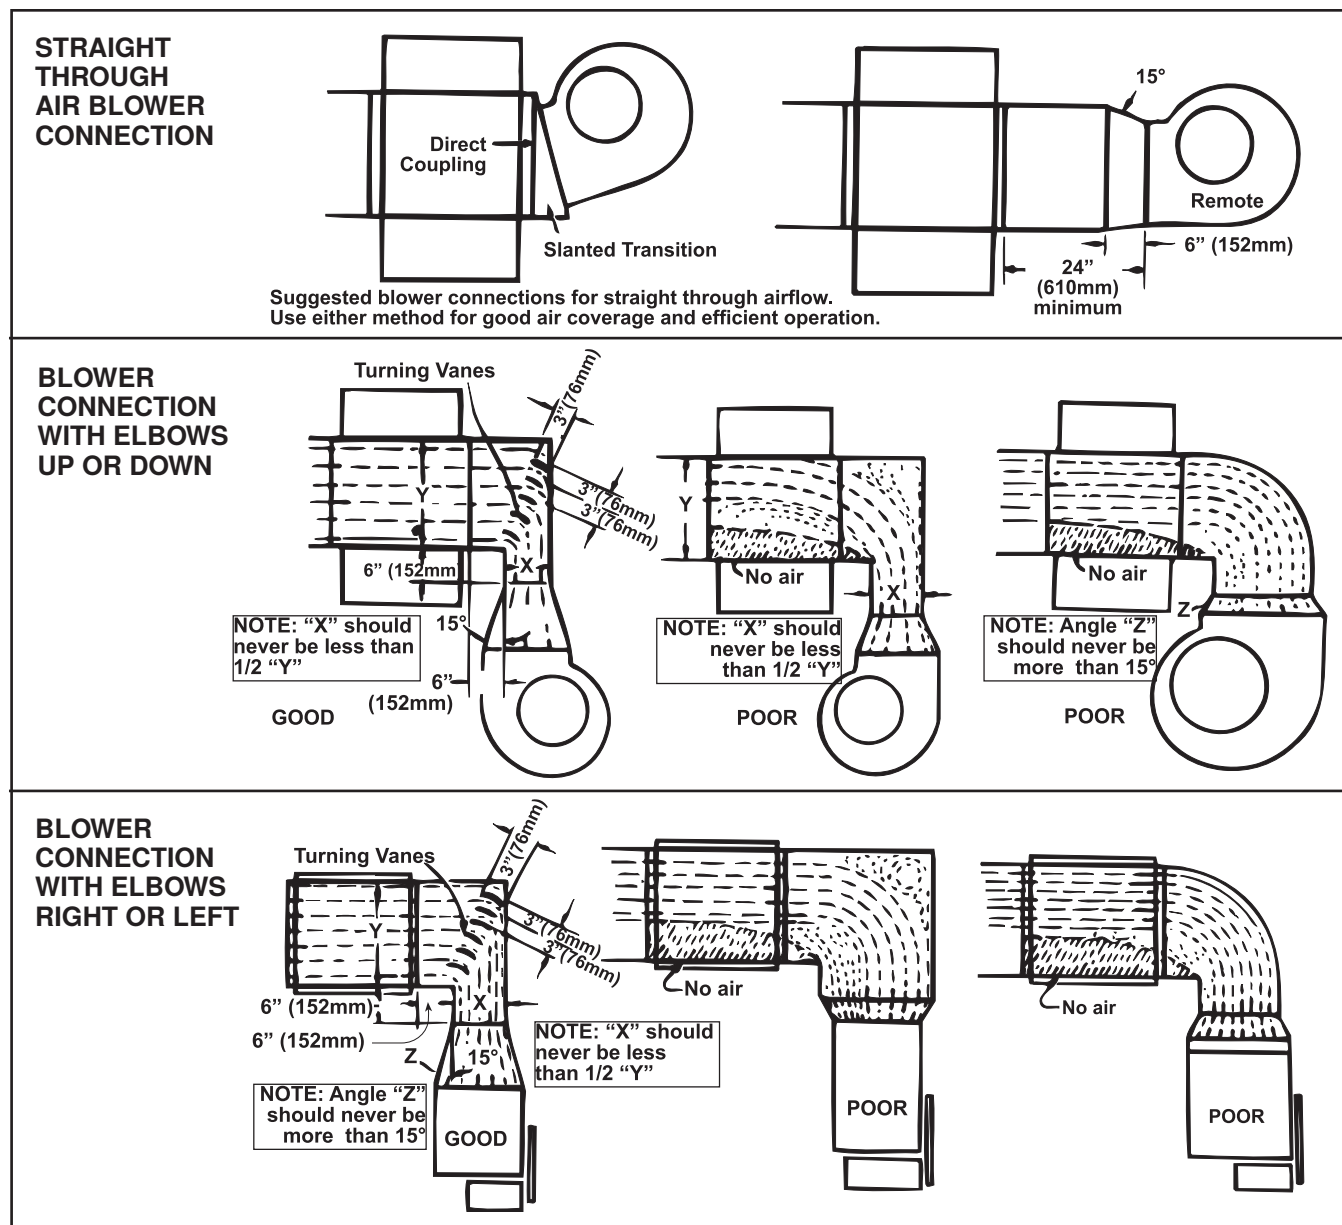

Figure 9. Duct Furnace Blower Connections
- Proper arrangements of the blower and the duct furnace with respect to the angle of approach of the duct connection and the arrangement of the discharge opening of the blower are shown in Figure 9.
Abrupt angle approaches shown in Figure 9 can be detrimental to unit life. Ensure that ample air is directed at the base of the tube section by using turning vanes as shown.